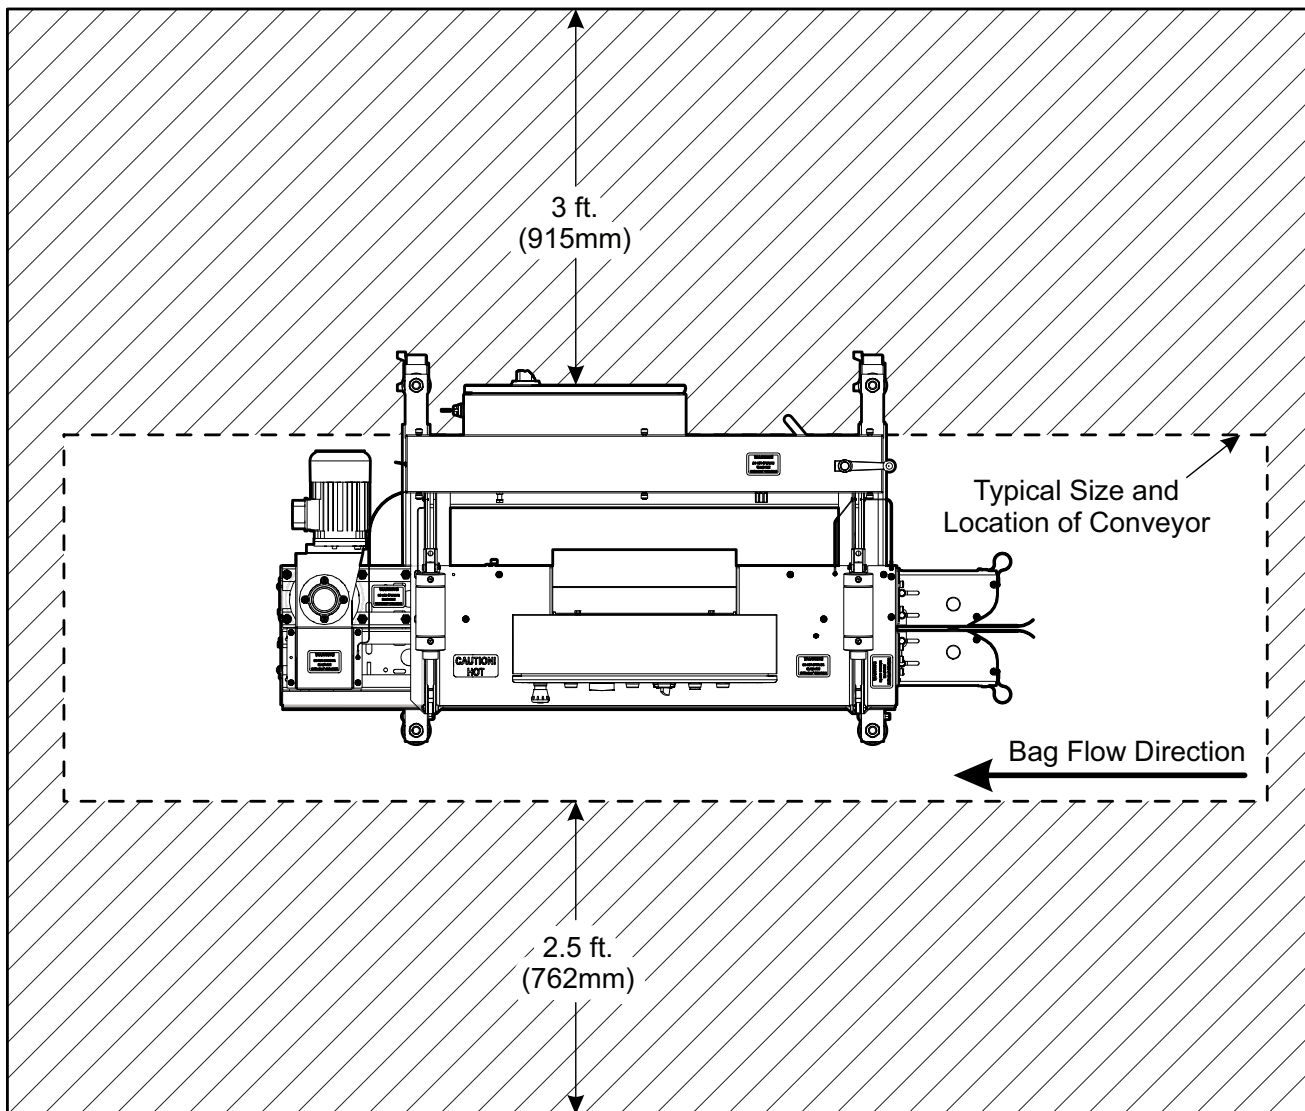

Figure 3-1: Recommended Work Area Layout
8. Roll the machine to the desired work area. Be sure to provide the needed space around the system as shown in Figure 3-1: Recommended Work Area Layout.